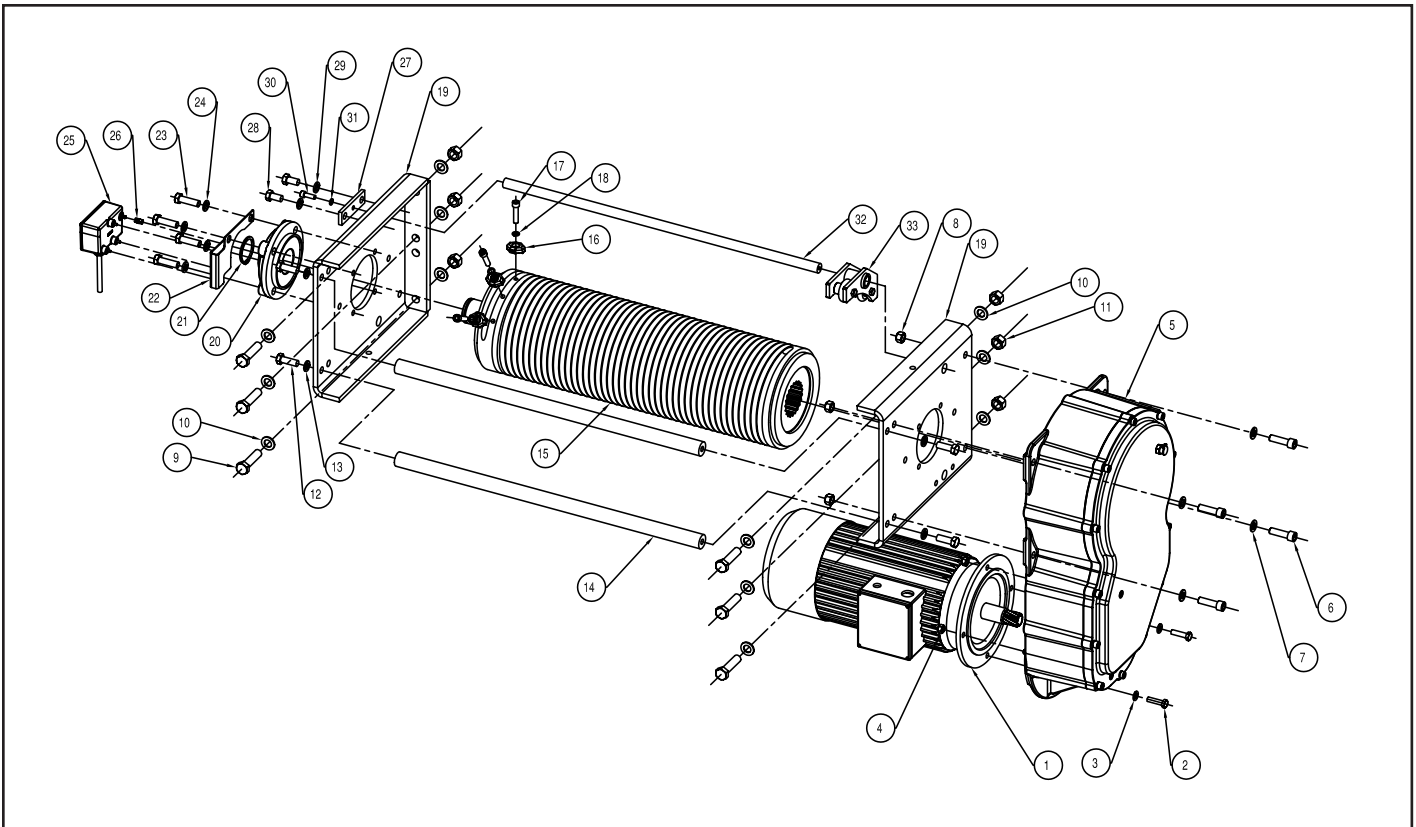

Figure 9-1b. Hoist Drum, Drum Frame, Gearcase, Motor, Rope Guide and Screw Type Limit Switch
"D" Frame: Hoist Components for Figure 9-1b.
**"D" Frame: Hoist Components for Figure 9-1b.**